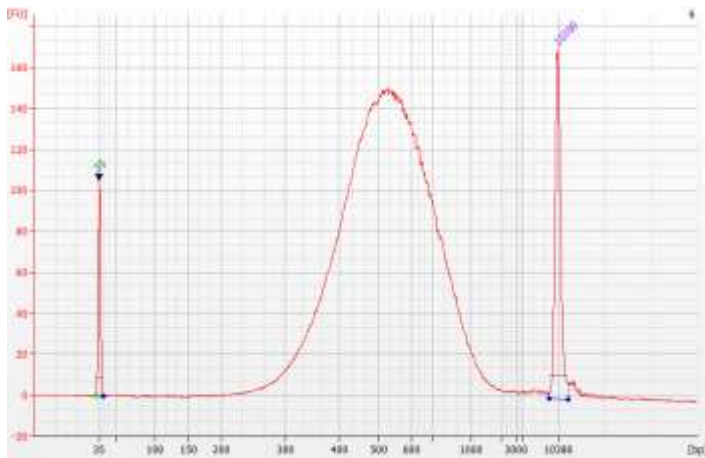

Figure 3: Typical Bioanalyzer trace for library generated using gDNA sheared to 300 bp.
1. Analyze 1 µL of the library on a Bioanalyzer High Sensitivity Chip to determine size distribution. After ligation of the adaptors, the peak should center at 500 bp for a 300-bp insert library and at 800 bp for a 500-bp insert library. See figures 3 and 4 for typical Bioanalyzer traces of libraries generated using gDNA sheared to 300 bp and 500 bp.